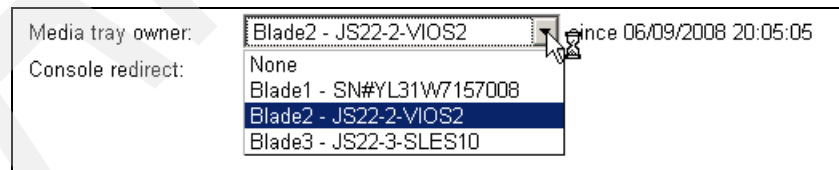

Figure 6-1 Start Remote Control window
2. In the right side window, look for Media Tray Owner and click the drop-down arrow to display the various blade bays. Select your blade bay location with the mouse as shown in Figure 6-1.